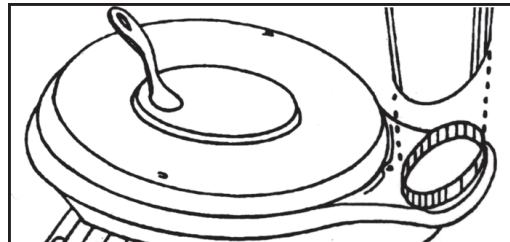
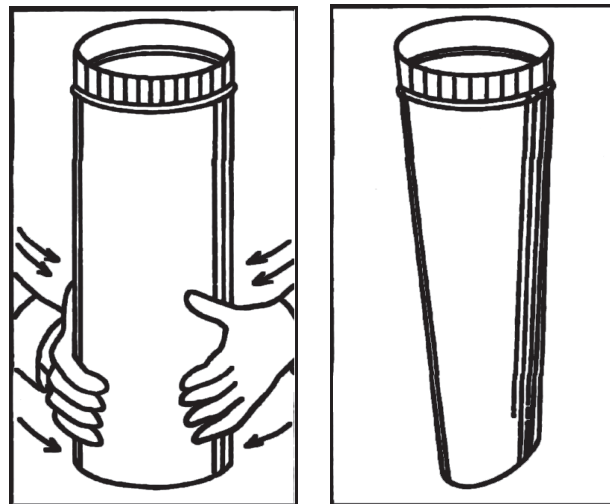
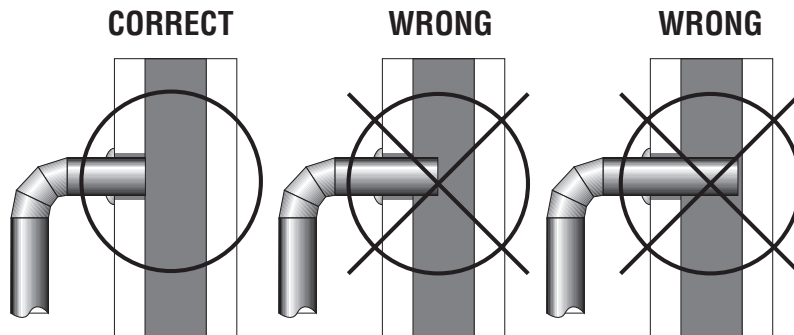

Fig. 5 – Flue Outlet Collar
Fig. 6 – Hand-form pipe to oval shape – Fig. 7
Fig. 8 – Stovepipe/Flue Connections
1. The stove must be placed on solid concrete, solid masonry, or on an listed floor protector, such as Hy-C or Imperial Model UL 5463BK when installed on a combustible floor. The base must extend at least 18" beyond the front, rear and sides of the stove, and **must** extend under the stove pipe if it is elbowed towards a wall (see figure 5 and consult local building codes and fire protection ordinances.)
1. The smooth end of the stovepipe fits over the cast iron flue collar at top rear of stove (fig. 5).
- b). Hand form lower end (fig. 6) of stove pipe to oval shape (fig. 7) and slide over flue outlet collar as shown in figure 5.
- c). Secure stove pipe to flue collar with at least three (3) sheet metal screws and seal with stove cement.
4. The pipe cannot extend into the chimney flue (figure 8).
5. Secure pipe/elbow sections with three (3) sheet metal screws at each joint to make the piping rigid.
6. It is recommended that no more than two (2) 90 degree bends be used in the stovepipe installation. The use of more than two 90 degree bends may decrease the amount of draw and possibly cause smoke spillage. Where possible, use only corrugated (nonadjustable) elbows. These provide a better seal.
2. Install a metal or fire clay (5/8” minimum thickness) thimble. Make sure the thimble is flush with the inner surface of the chimney liner and does not protrude into the flue (see figure 8 on page 5).